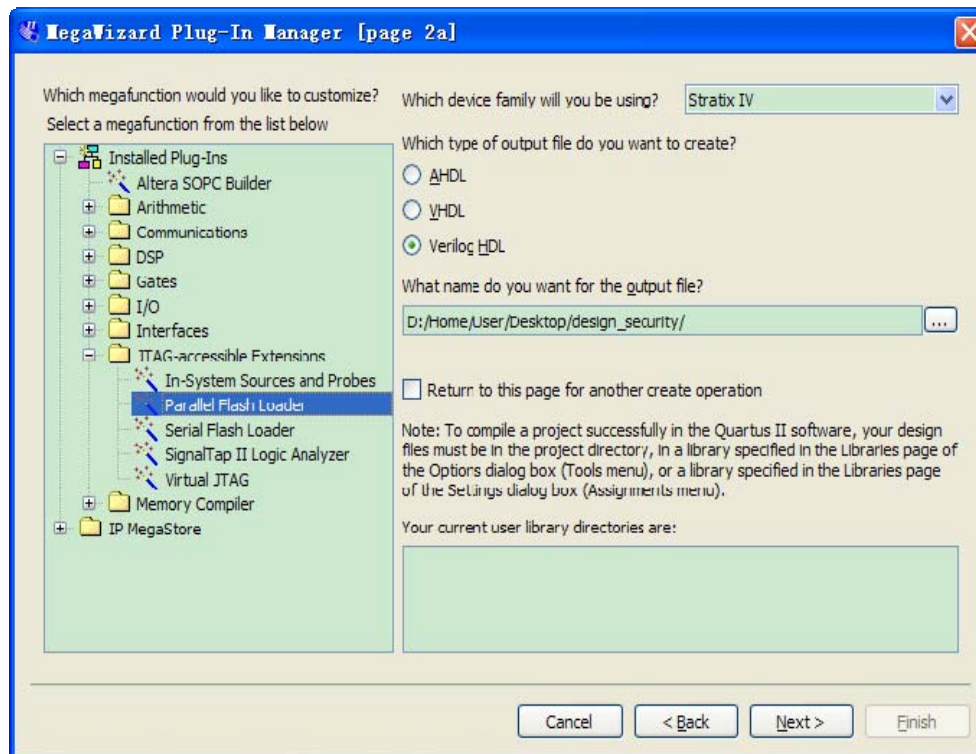
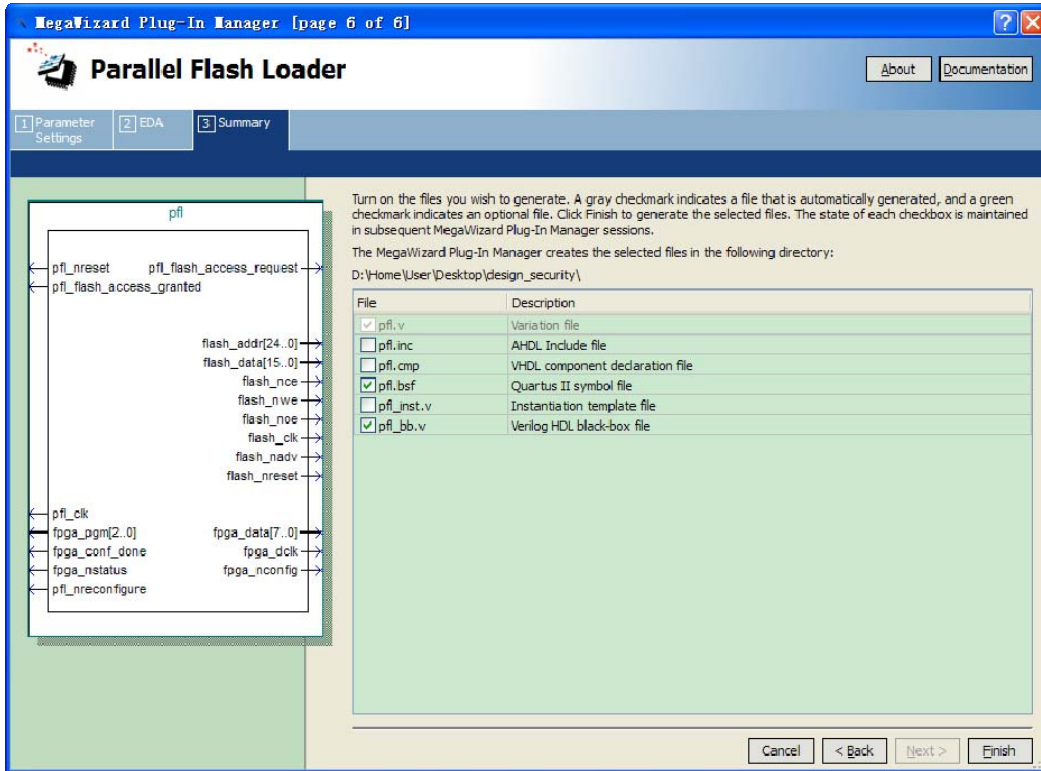

Figure 3-8 MegaWizard Plug-In Manager [page 2a] Dialog Box
Figure 3-13 Setting the PFL Megafunction Parameters(Step 5)
2. On page 1, click **Create a new custom megafunction variation**. Click **Next**. Page 2a appears As shown in Figure 3-8.
5. In the output file list, select **Verilog HDL** output file type, As shown in Figure 3-8.
11. Click Next. **Summary** page appears, s shown in Figure 3-13 This page shows the files that will be created for the megafunction. Choose any additional file types that you want to create.
12. Click **Finish**. The Quartus II software generates the PFL megafunction in the form of the HDL file selected on Figure 3-8 and any additional files selected on Figure 3-13.